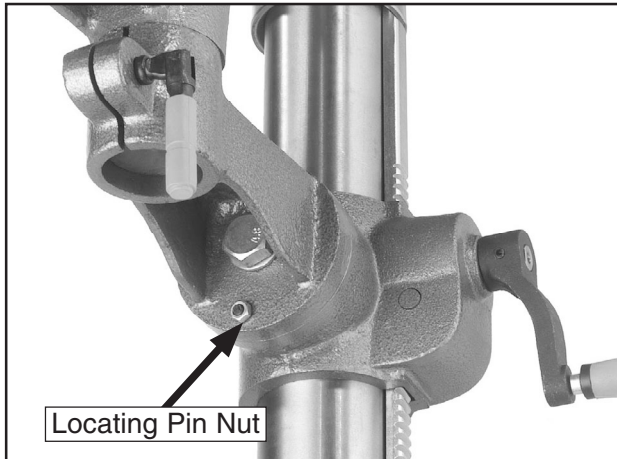

Figure 24. Locating pin and nut (G7946).
1. Turn the locating pin nut (**Figure 24**), in a clockwise direction. This will draw the locating pin out of the casting. Once loose, pull out the pin and nut, and set them in a safe place until needed.